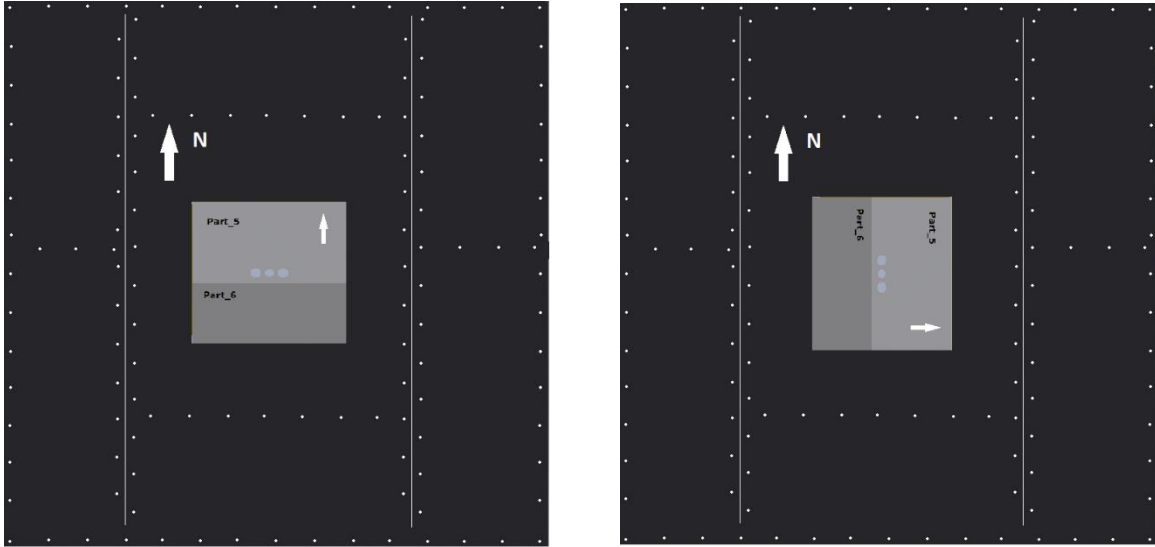

Figure 7
- The part\_5 and part\_6 has to be aligned in orthogonal direction with the same holes and screws as shown in figure 7